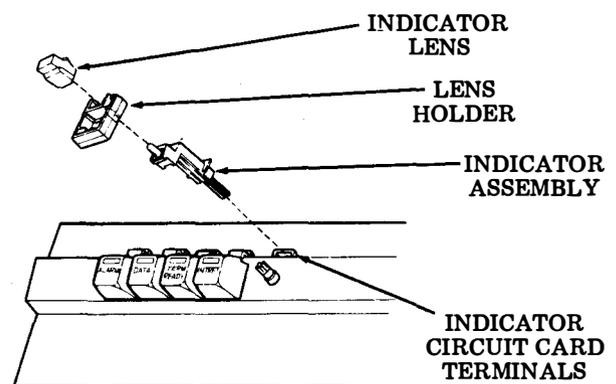

Fig. 41—Indicator Keytop Removal
- (a) With the circuit card and indicator keytop assembly removed, (Fig. 41), depress the indicator plunger assembly until it slides out of the housing.